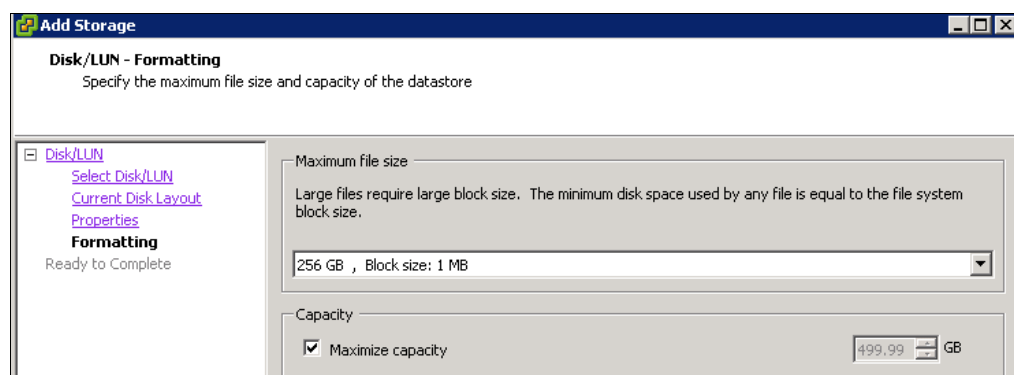

Figure 5-63 Maximum file size
11. Select the maximum file size and click **Next** (Figure 5-63).